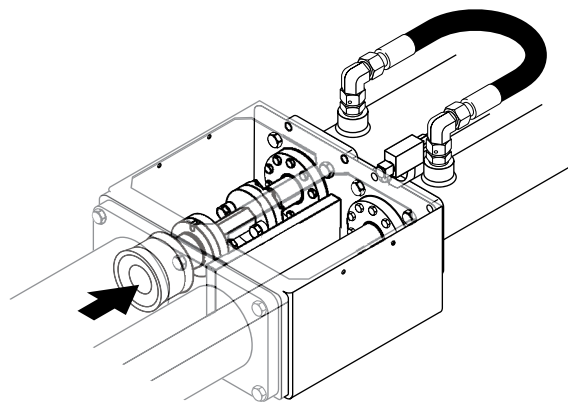

Figure 18
4. Retract the left-hand side differential rod almost all the way into the waterbox (Figure 18). Leave about 1.5 inches of travel, which will allow you to remove the spacer coupling (dogbone). When in position, shut-off the engine.